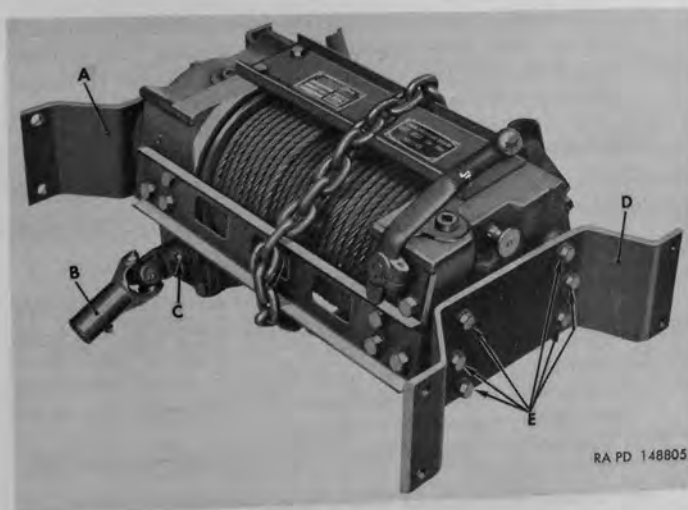

Figure 45. Winch assembly.
- (1) Install right and left support brackets ((D) and (A), fig. 45) on which with special bolts ((E), fig. 45) and $\frac{9}{16}$ -inch lock washers.
- (2) Install front universal joint ((B), fig. 45) on splines of winch shaft and insert shear pin ((C), fig. 45) through joint and shaft. Secure shear pin with two cotter pins.
- (3) Supporting winch with chain fall, guide winch with support brackets attached (fig. 45) between frame side members. As winch is pushed toward rear, guide front universal joint splines onto front drive shaft splines.